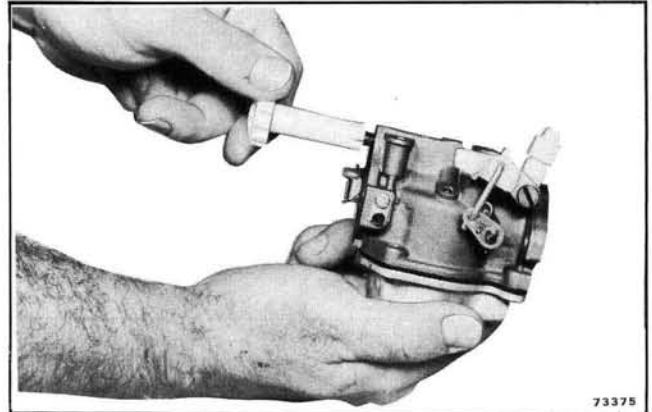

Figure 3-12. Removing Low Speed Needle
a. Using low speed knob, remove low speed needle in a counterclockwise direction. See Figure 3-12.